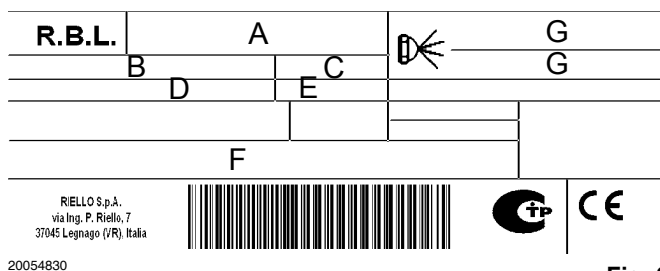

Fig. 6
- the model (see A in Fig. 6) and type of burner (B);
- the year of manufacture, in cryptographic form (C);
- the serial number (D);
- the electrical input power (E);
- the types of fuel used and the relative supply pressures (F);